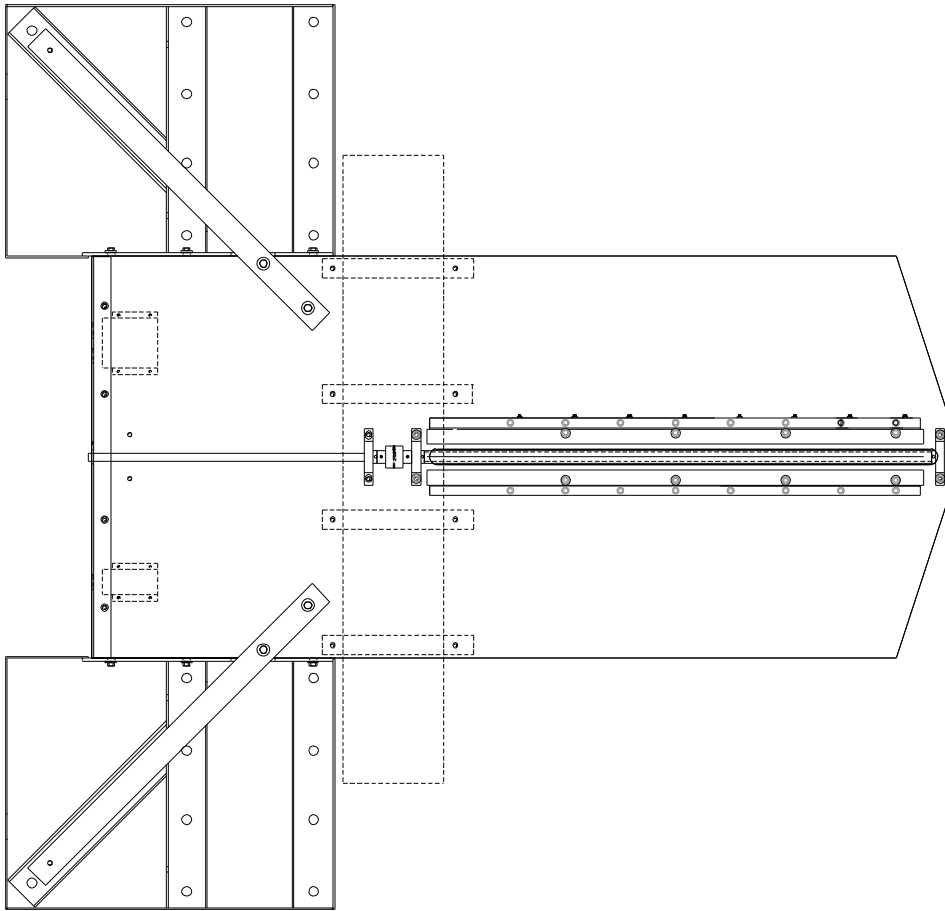

Fig. 5
Unpack the side tables, side table braces, and bolts from the shipping containers. The side tables are a pair one (1) left side and one (1) right side. The braces fit either side. Two (2) people may be necessary for installation. Fig. 5.
1. Install the 2 side table support braces with the four (4) 3/8-24 hex head bolts and washers. They bolt to the table bottom and are at a 45-degree angle. Finger snug the bolts.
2. Remove the four (4) 3/8-24 x 1" hex head bolts from the side of the main table.
3. Position the left side table over the left side table support brace and up to the main table. The brace will fit inside the c-channel on the under side of the table. Install two (2) 3/8-24 x 1" hex head bolts and washers to hold the side table.
5. Tighten the two (2) hex head bolts on the side table support brace. Turn the hex head bolt at the end of the support brace to level the table and remove any spring the table may have.